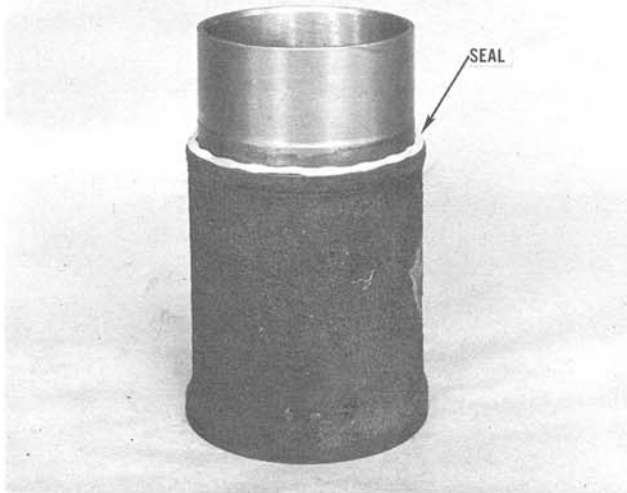

FIGURE 27. CYLINDER SLEEVE SEAL INSTALLATION
3. Clean the lower seal contact surface so that the new seals, when assembled, will not be torn or damaged by particles of rust or corrosion protruding from the machined surfaces (Figure 27).